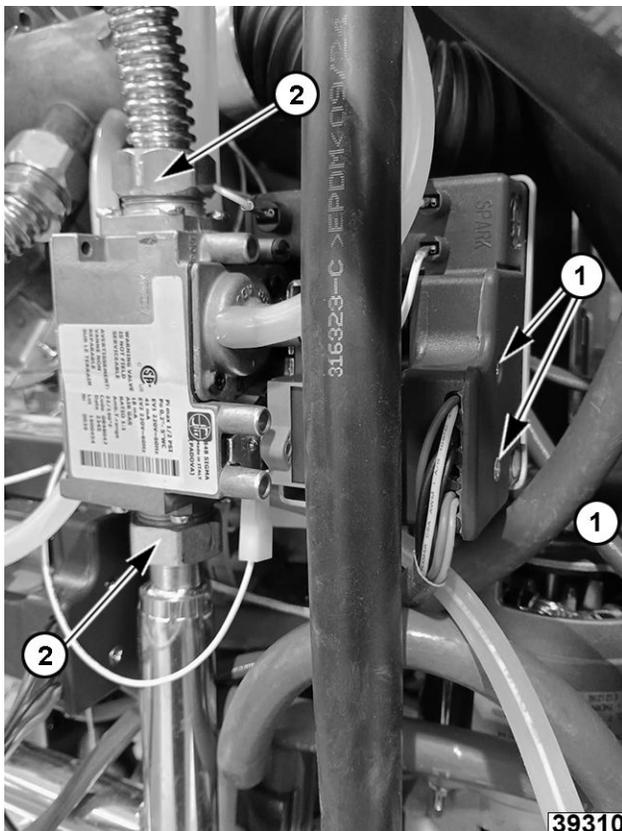

Fig. 101
2. Note and disconnect gas lines (2, Fig. 101) from gas valve.
FRONT - CAVITY GAS VALVE SHOWN IN Fig. 101